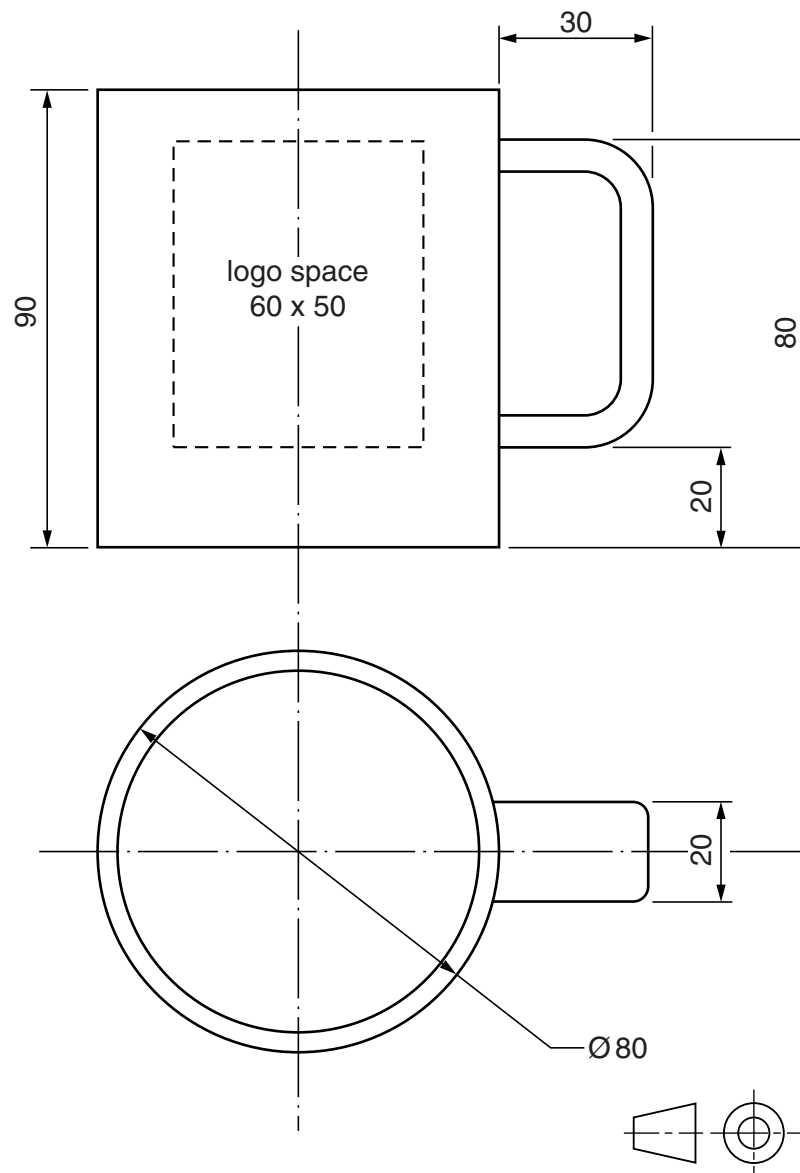

Fig. 6
- a cartoon style character for **one** of the flavours. It is to be printed on the space indicated on the mug shown in Fig. 6;